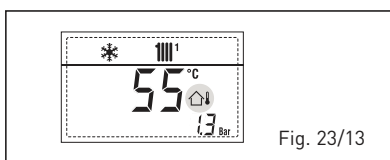

Fig. 23/13
– **INTERVENTION THERMOSTAT SECURITE PREMIERE ZONE MIXTE “ALL 20”** (fig. 23/14)